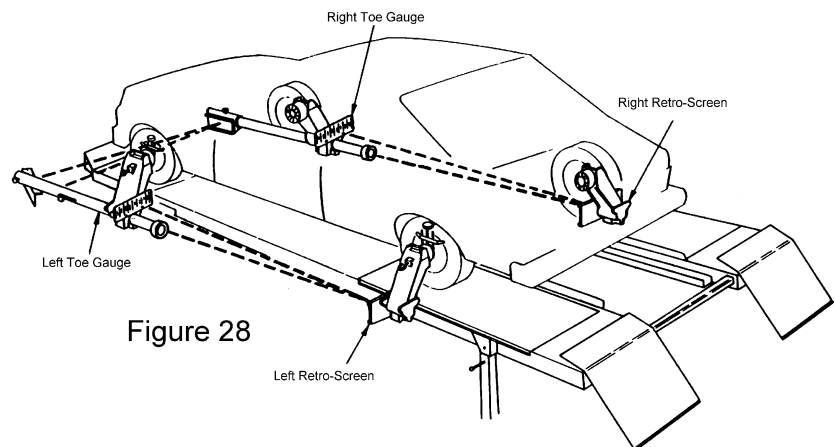

Figure 28
- 2) Mount the Laser Toe Gauges to the Wheel Clamps. Center the magnet on the Wheel Runout Compensating Adapter. Connect the safety strap to the Wheel Clamp for extra protection against damage. (See Fig. 28)